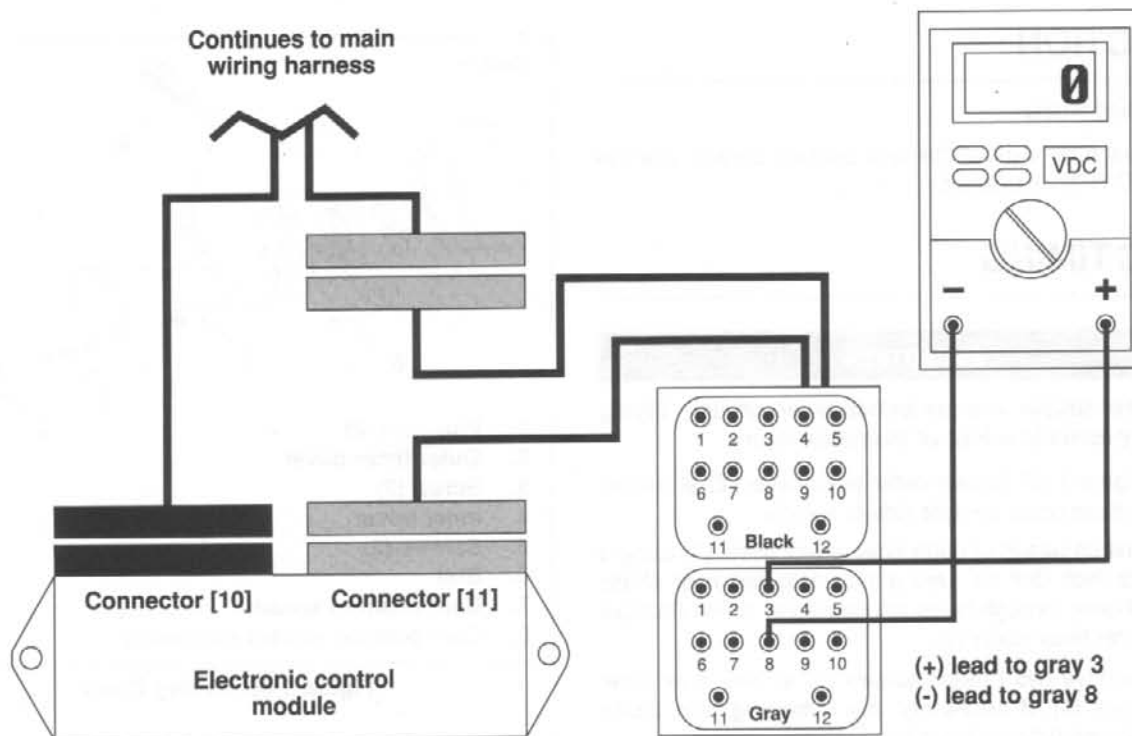

Figure 1-68. Static Timing Connections
5. See Figure 1-68. Attach test components.